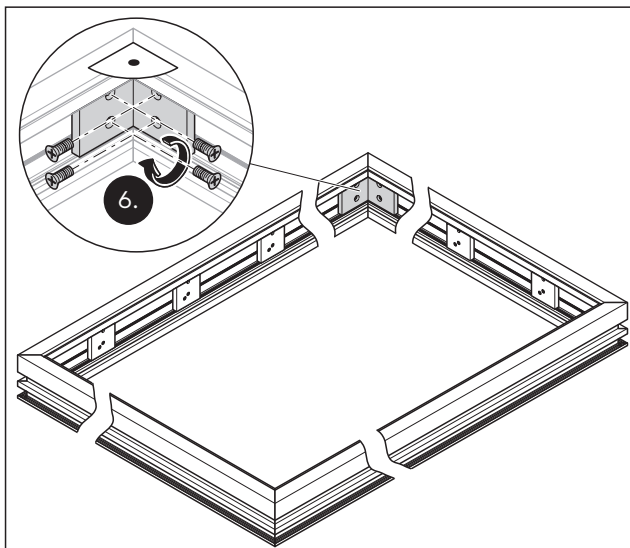

Fig. 17 Connect the angle pieces to the sections
6. Fix the 4 angle pieces in the acoustic element frame with countersunk screws M5x20 mm (Fig. 17).